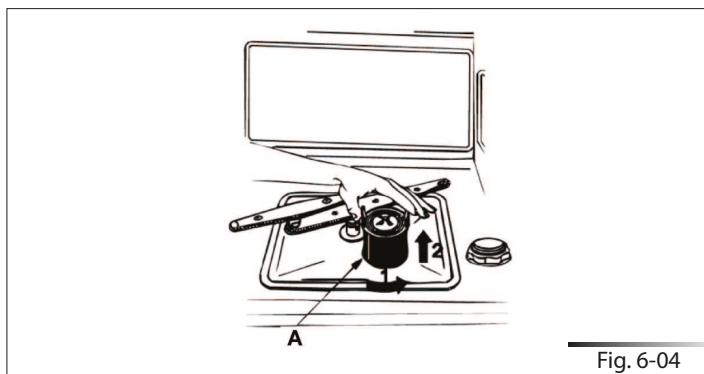
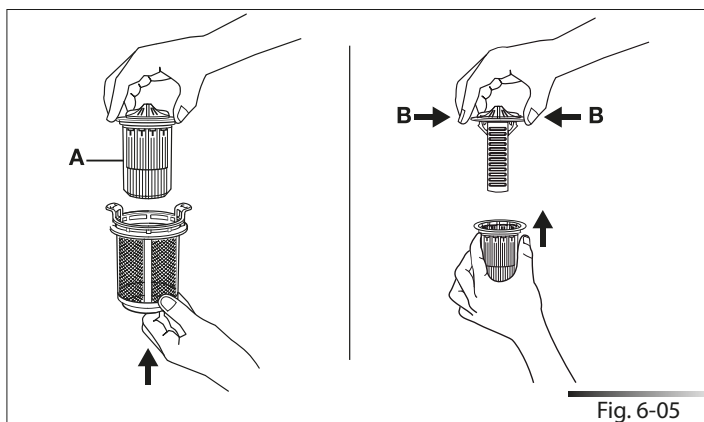

Fig. 6-04
Fig. 6-05
- Periodically inspect the filter unit (ref. A fig. 6-04) and, if necessary, clean it under running water (at room temperature), using a stiff brush. To remove the filter, grip the tabs, turn anticlockwise and lift upwards;
- push the centre filter (ref. A fig. 6-05) from the underside to remove it from the micro-filter;
- separate the two parts which make up the plastic centre filter by pressing the body of the filter in the zone shown by the arrows (ref. B fig. 6-05);
- after cleaning, remount the filter unit, joining the two parts comprising the centre filter by pushing slightly until they click into place; insert the centre filter into the micro-filter (see fig. 6-05). Reposition the filter unit (ref. A fig. 6-04) into its seat, turning it clockwise until it locks.